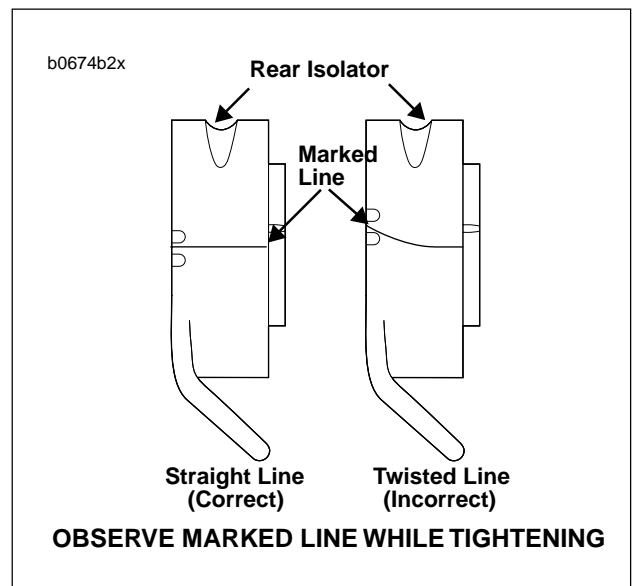

Figure 6-9. Isolator Alignment
- Observe seam on rubber isolator after isolator bolt is tightened. If seam twists, apply more **LOCTITE ANTI-SEIZE** to underside of isolator bolt heads. Failure to comply will result in damage to rubber isolators. See Figure 6-9.
3. See Figure 6-9. After tightening isolator bolt, verify that seam on isolator is perpendicular to swingarm mount block.